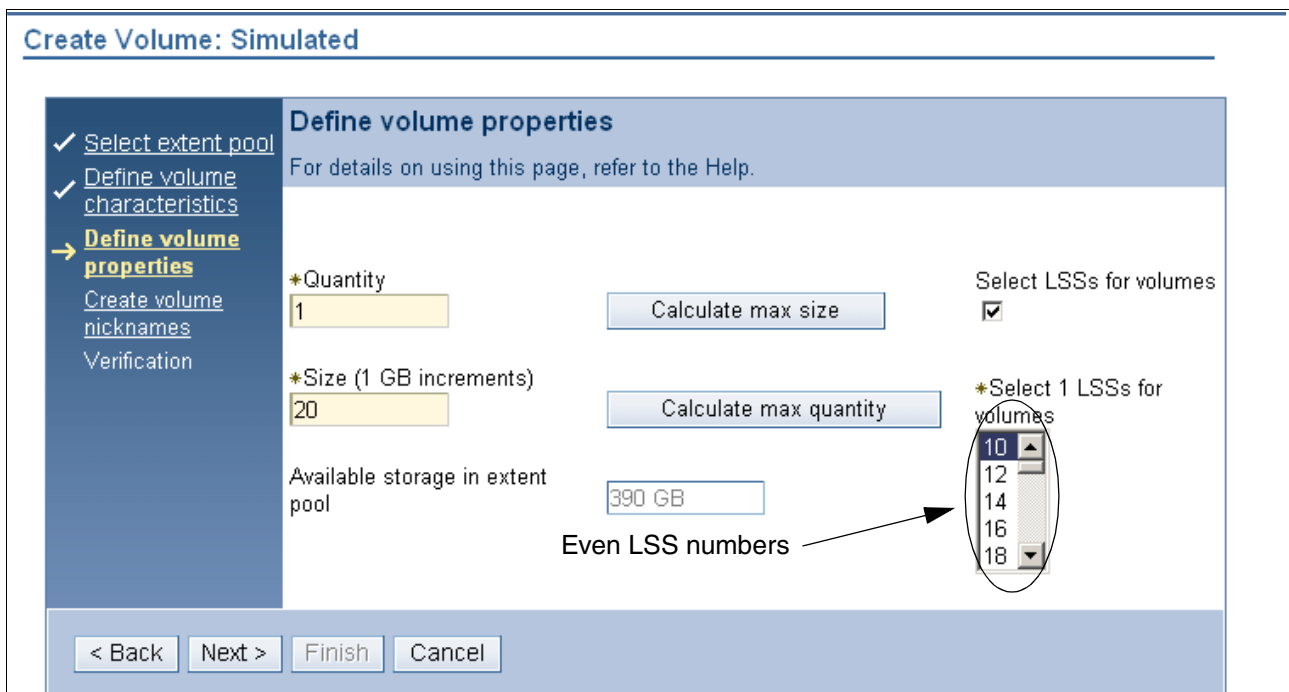

Figure 10-42 The Define volume properties panel
Determine the quantity and size of the volumes. Use the calculators to determine the max size versus quantity, as shown in Figure 10-42.
**Note:** Since server 0 was selected for the extent pool, only even LSS numbers are selectable, as shown in Figure 10-42.